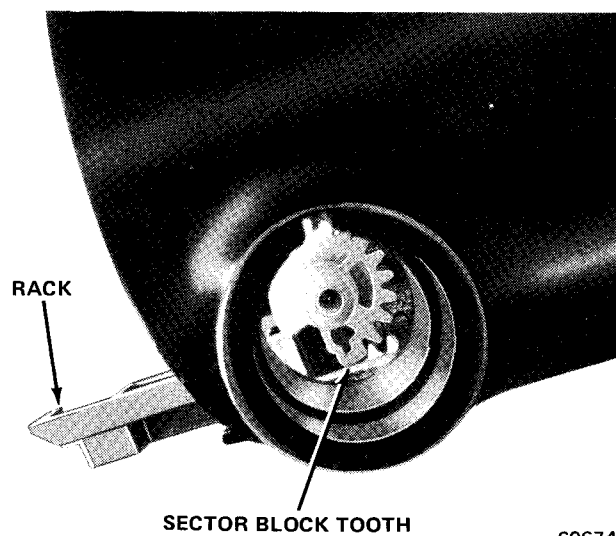
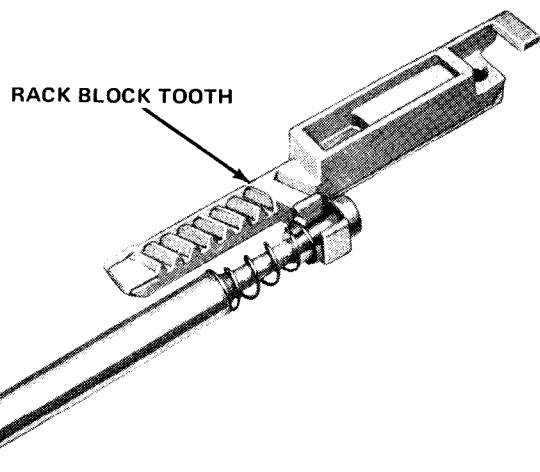

Fig. 11-20 Installing Lock Bolt and Rack
Fig. 11-19 Assembling Lock Bolt and Rack
(3) Assemble lock bolt and lock rack (fig. 11-19).
(4) Install assembled lock bolt and lock rack in housing (fig. 11-20). Mate block tooth on rack with block tooth on sector (fig. 11-19 and 11-20).